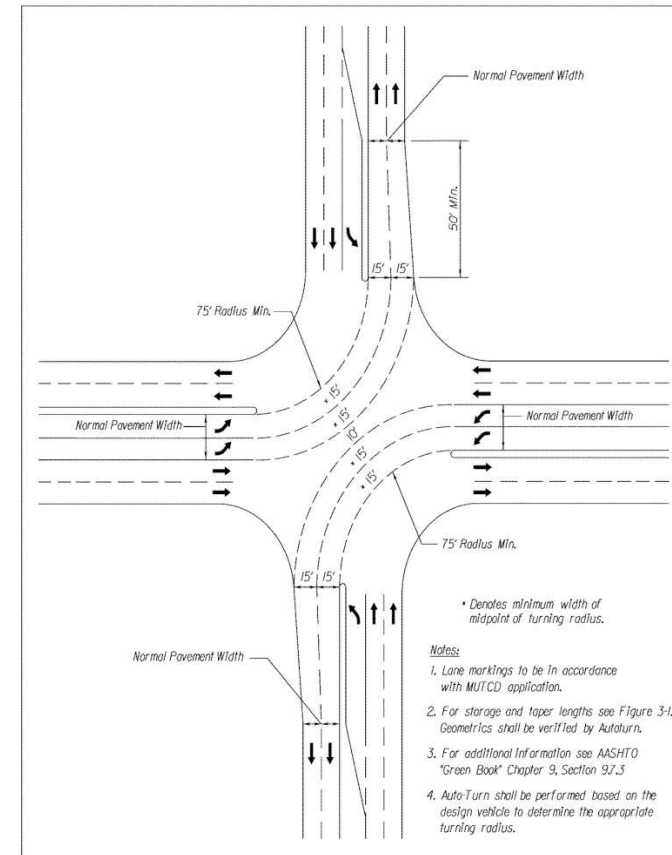

FIGURE 3-23 DOUBLE LEFT TURN LANES*
- 15' lanes are above normal lane design spec but justified by project personnel referencing VDOT design standard for 15' approaches on DDI. VDOT design standard in question is found on page A3-40 of the VDOT RDM and references Figure 3-23 in Appendix F (depicted here).